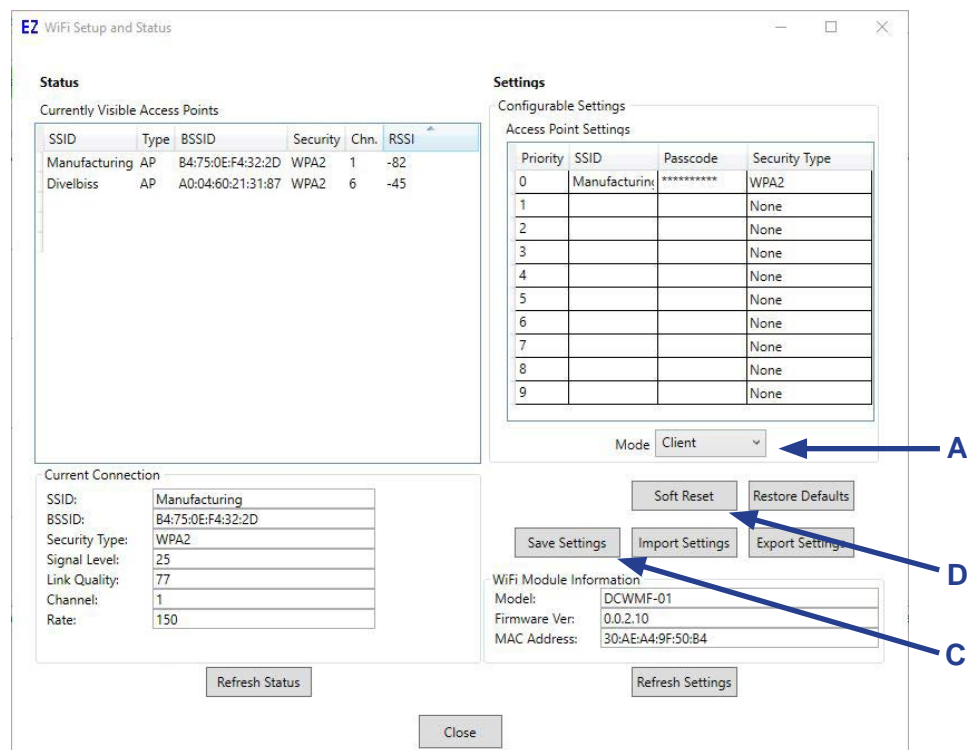

Figure 19-15
5. The **WiFi Setup and Status** window will open. An intermediate temporary dialog may be seen while the setup is accessed. Refer to Figure 19-15.